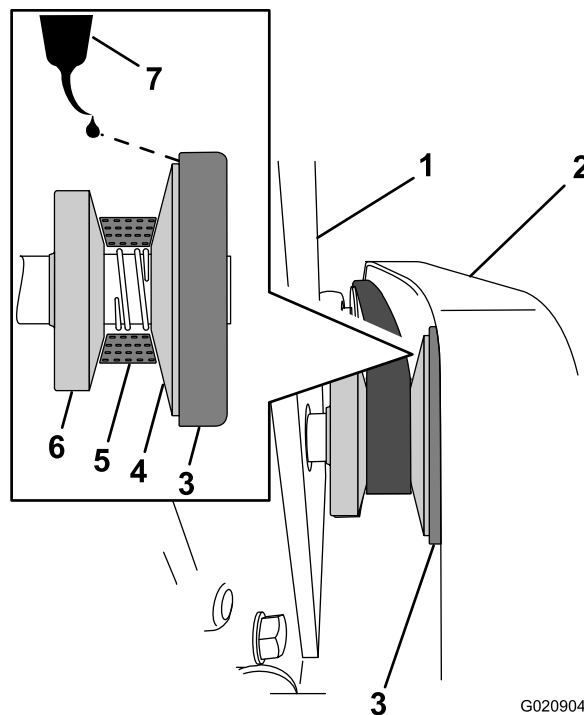

Figure 32
1. From the back of the machine, locate the clutch cover that is between the lifting bracket and the belt (Figure 32).
2. Apply 2 or 3 drops of SAE 5W-30 oil between the clutch cover and the sliding cone (Figure 32).